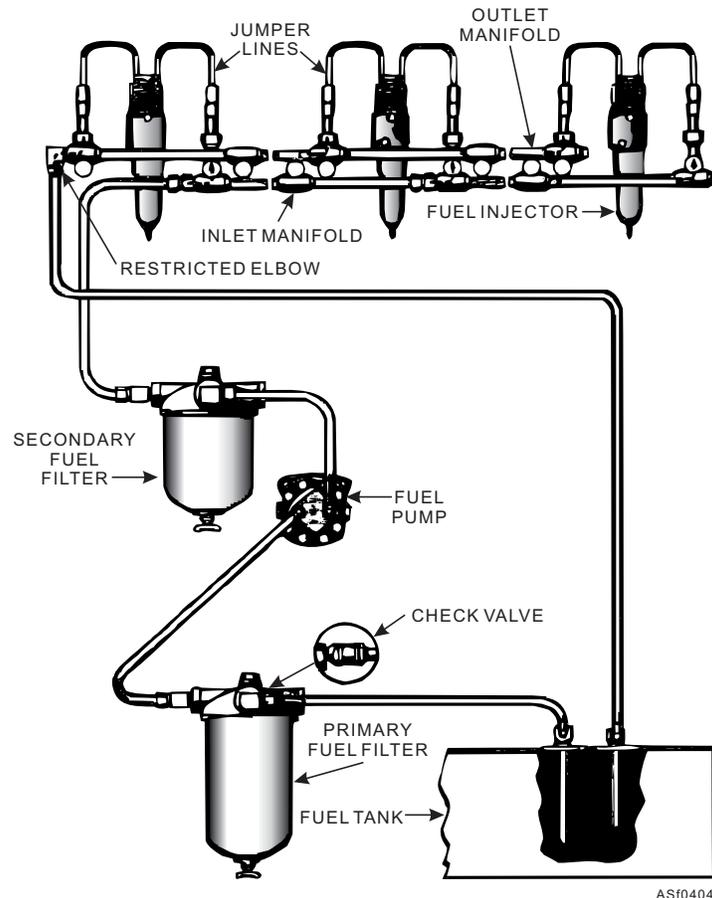

Figure 4-47.—Diagram of typical General Motors diesel fuel system.
**UNIT INJECTOR SYSTEM.**—The unit injector system combines the pump and the nozzle in one housing. There is one unit injector per cylinder (fig. 4-47).